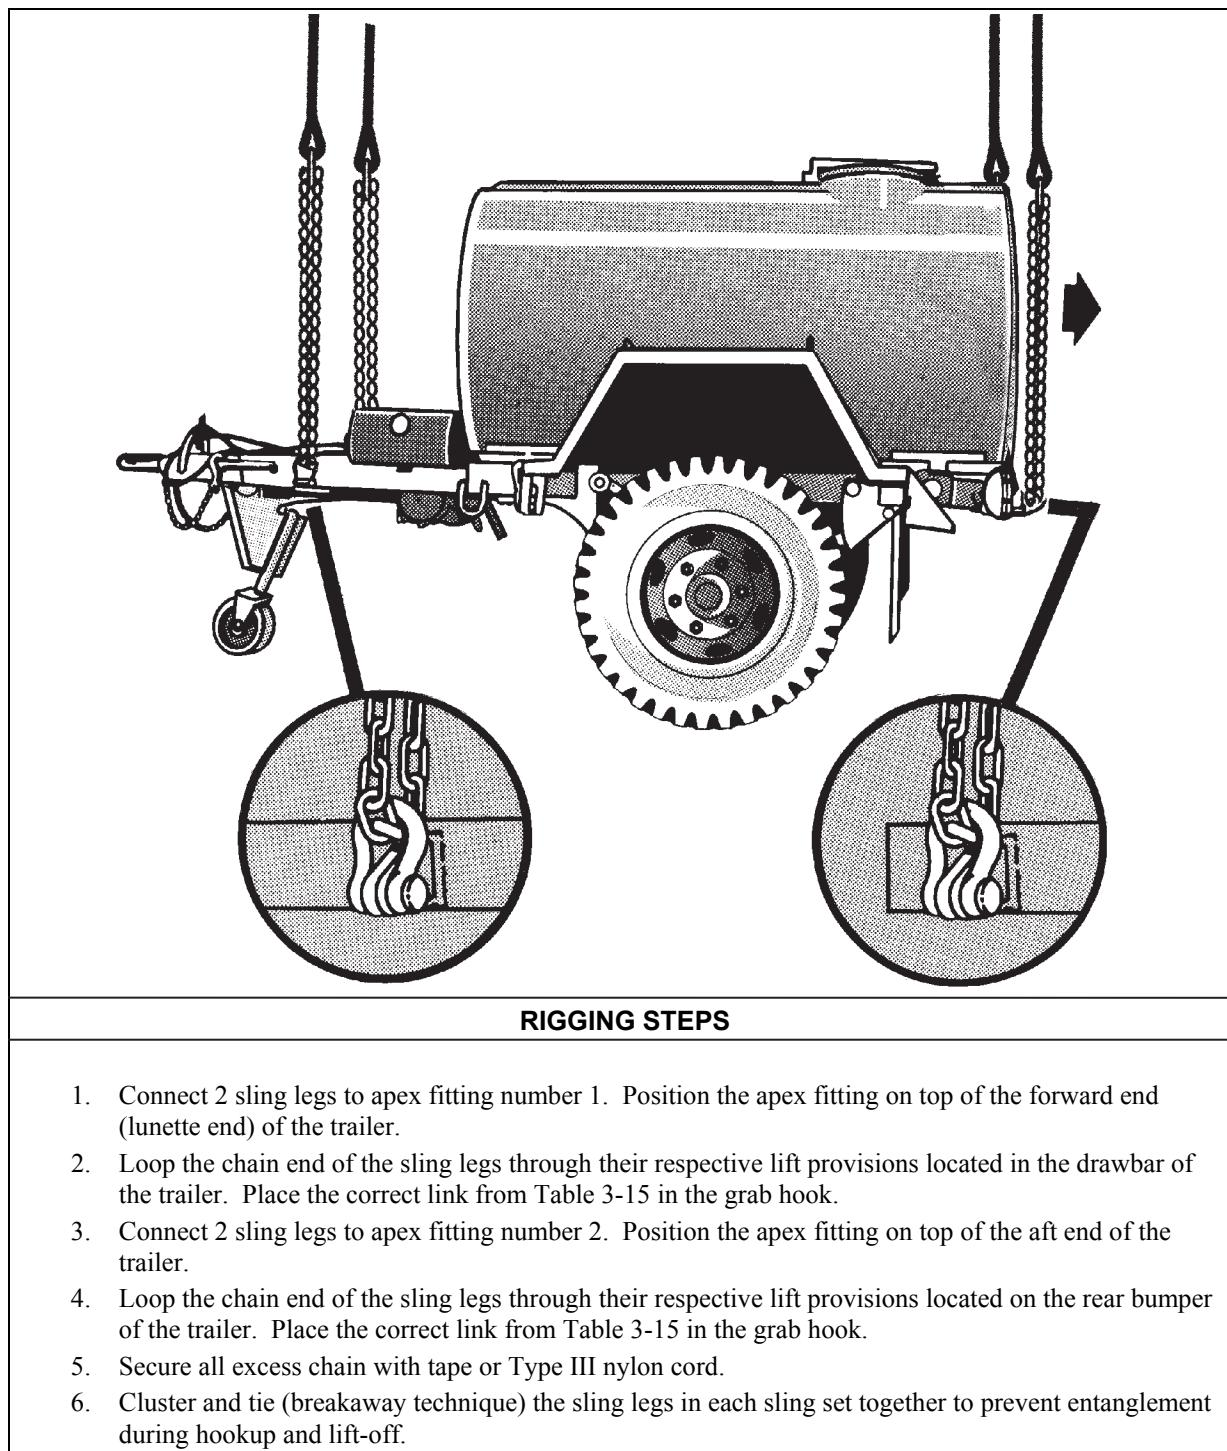

Figure 3-15. M1112, 400 Gallon Water Trailer
- **Rigging.** Rig the load according to the steps in Figure 3-15.